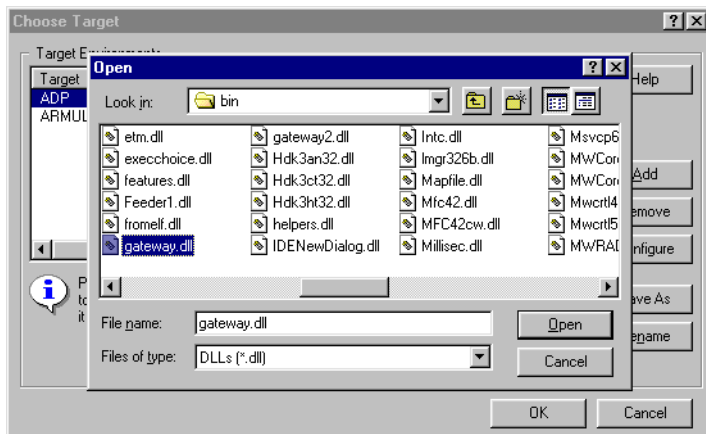

Figure 2-4 Selecting the Gateway DLL using AXD
- c. Find the file Gateway.dll, select it, and click on the dialog **Open** button as shown in Figure 2-4 on page 2-5.